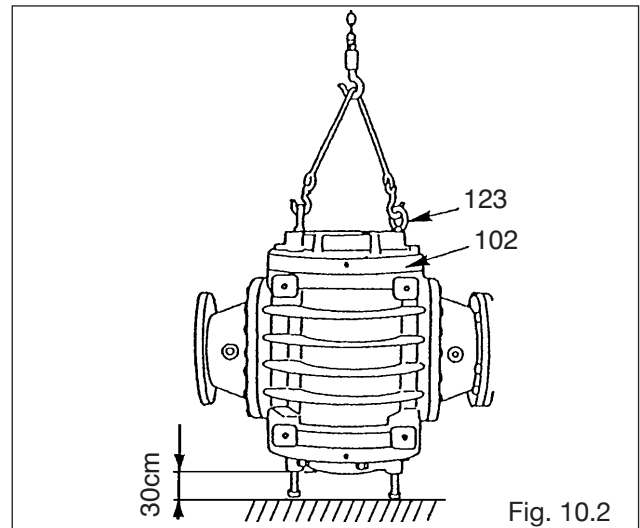

Fig. 10.2
- (2) Using the four eyebolts (123) furnished, place the flowmeter body upright with front cover (102) up (Fig. 10.2).